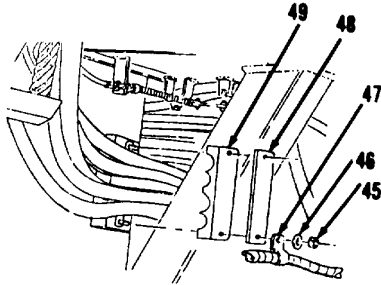

Figure 10-173.
- 20. Remove two nuts (45), washers (46), clip (47), plate (48) and clamp (49, Figure 10-173) from under left side of cab.